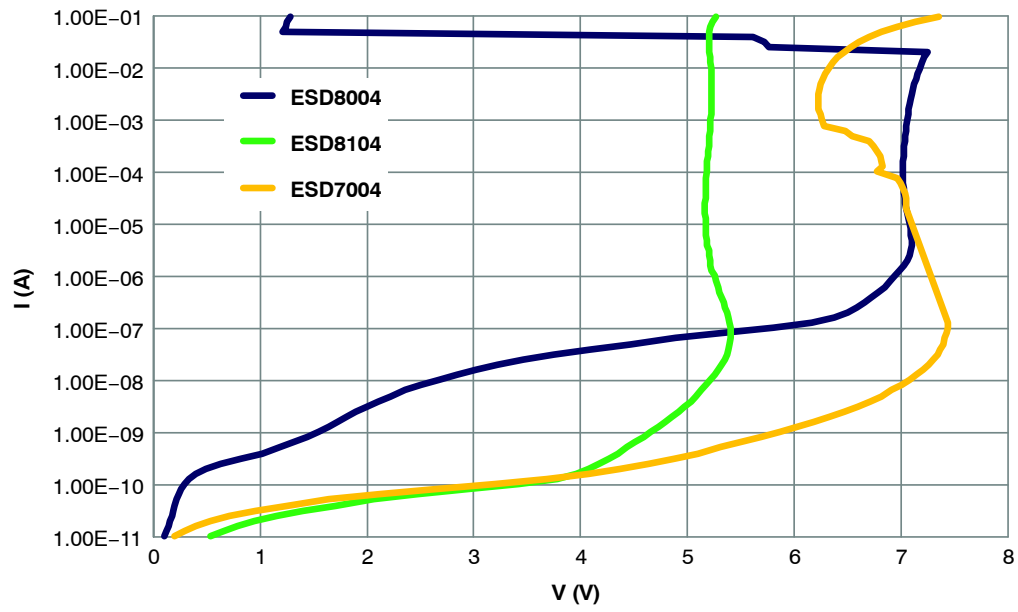

Figure 19. Low Current, DC, IV Characteristic of Each Technology
- ESD8100 series: Low voltage punch through (LVPT) type technology. The key advantage for this technology is a very low turn-on voltage as shown in Figure 19. This technology provides optimized protection for chipsets with small geometries against recoverable failures due to voltage peaks (also known as "soft failures").